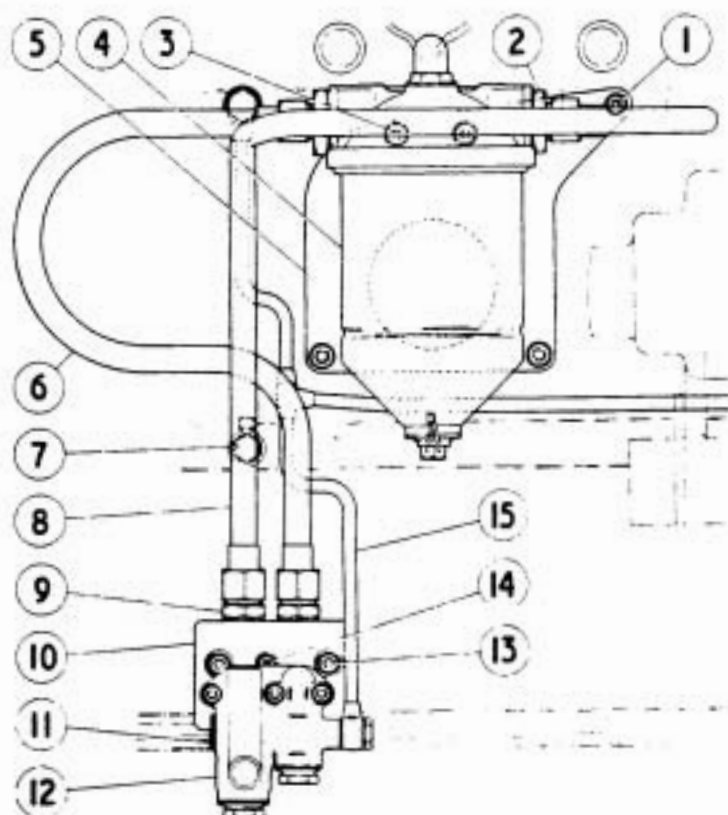
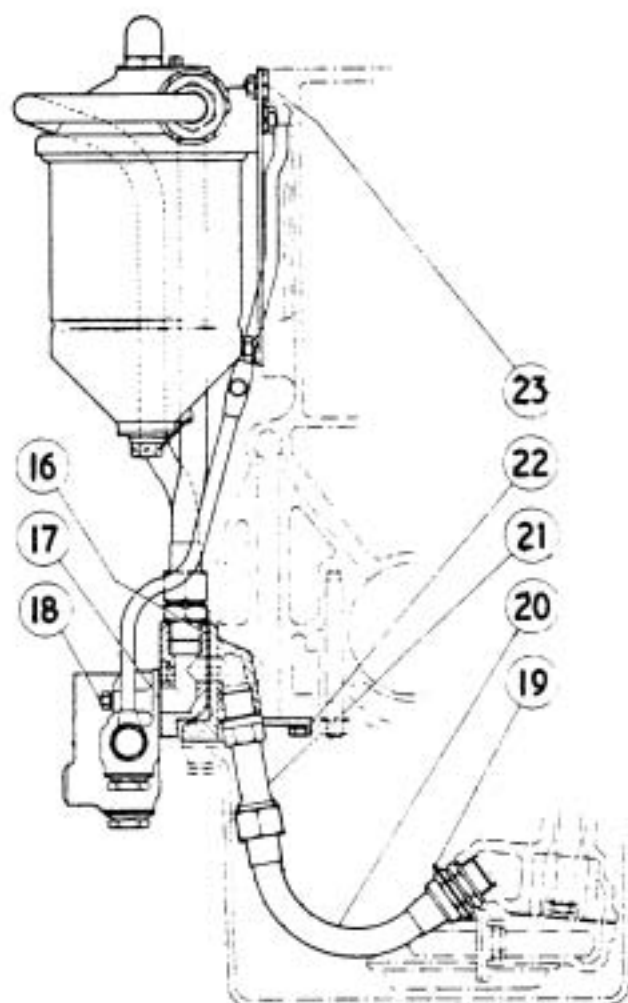
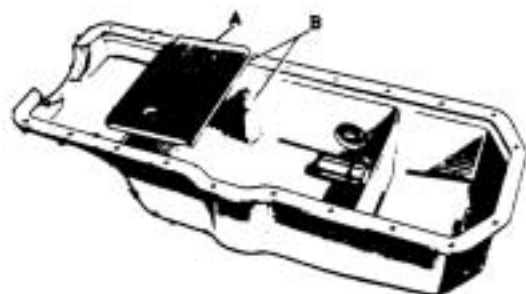

FIG. 9. FRONT ELEVATION - FULL FLOW OIL FILTER.
FIG. 10. END ELEVATION - FULL FLOW OIL FILTER.
FIG. 11. CRANKCASE LOWER HALF.
The hole should be tapped sufficiently to allow the threaded end of the pilot of the spot facing tool, R-4670 to be a 'feel' fit when screwed into position, this will also allow the threaded end of the stand pipe, (21 Fig.10) to be a similar fit, i.e. not tight or slack, when fitted. As the wall thickness of the hole may vary from engine to engine, the reaming and tapping operations should be carefully carried out.
NOTE: In the unlikely event of the lug having been machined back on an engine prior to 'H' series chassis, then it will be necessary to fit the circular distance piece (23 Fig. 10) interposing it between the filter mounting plate and the lug when fitting the mounting plate and filter assembly to the crankcase as described in Sub-para. xv.
- (vii) After removing ALL TRACES OF SWARP from the crankcase, blank off the original vertical oil feed hole to the oil gallery inside the crankcase by fitting the cover, 22 Fig. 10, securing it with the two setscrews and lockwashers. Thoroughly clean internally all oil pipes.
- (viii) Fit the standpipe (21) and joint washer to the .750" dia. tapped hole in the crankcase. With the oil pump in position, fit the new oil feed pipe (20), securing the union nut (near pump) with the existing locking plate (19). SET NEW PIPE IF NECESSARY TO AVOID
- (x) Fit the three studs, 18 (2-BA x 1.600" long) to the transfer block (10 Fig. 9), also the two adaptors (9) and joint washers. Place the block complete with its Vellumoid joint R-4497, on to the crankcase.
- (xi) Remove the union from the oil relief valve unit and fit the core plug (11) and joint washer. Place the unit and the Vellumoid joint (EB-3953) on to the transfer block. While tightening up the three nuts to secure, check that the end of the centre stud (14) or nuts securing the transfer block to the crankcase do not foul the casing of the oil relief valve unit. The unit is inverted for fitting under this arrangement as shown in Fig. 9.
- (xiii) When offering up the lower half of the crankcase, it will be found that the union nut securing the oil feed pipe to the standpipe (21) fouls the oil baffle ('A' Fig.11) and the locating lug at points 'B'. Remove the baffle and file the lug until it just clears the nut and then file the edge of the baffle to suit. It may also be necessary to file the inside of the lower half of the crankcase to clear the nut. Refit the baffle.
- (xiv) With the crankcase lower half assembled to the engine, fit the low pressure oil pipe assembly, (15) and joint washers.
- (xv) Fit the two unions (2 Fig.9) and joint washers to the filter and attach it to the mounting plate by means of the two setscrews, (3) spring and plain washers. Fit the assembly to the crankcase. (See "Note" under Sub-para. vi of Para. 7, concerning the circular distance piece, 23 Fig.10). With a syringe, inject a recommended S.A.E.20 engine oil into the filter through EACH of the two unions until it is full, then connect the inlet and outlet oil pipes (6 & 8) to the transfer block and filter.
- a) Before starting up the engine, unscrew the union nut of the inlet oil pipe (6 Fig.9) from the union on the filter, and with a syringe, fully prime the pipe and then prime the oil filter. Reconnect the union nut.
Concerning Scheme 'B' of Service Bulletin No. BB-143 (Section E), it has been brought to our notice that in one or two instances the external inlet and outlet oil feed pipes, (6 & 8 Fig. 9 of Bulletin No. BB-143) to and from the Full Flow Filter have been reversed when fitting to the transfer block (10). This arrangement causes the filter element to collapse and block the oil flow.
It will be observed upon reference to Fig. 9, that the lower end of the inlet oil pipe (6) is connected to the right-hand side of the transfer block and the outlet oil pipe (8) to the left-hand side.